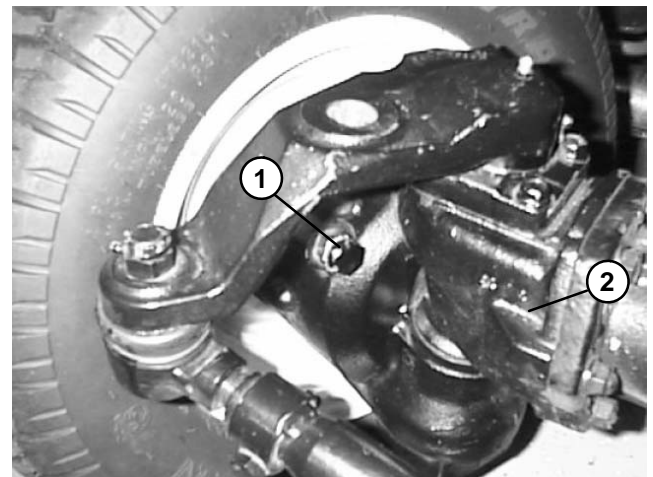

Figure 11
11. Check steering stop bolt adjustment. When the steering cylinder is fully extended in either direction, a gap of 1/16" (1.6 mm) should exist between bevel gear case casting and stop bolt on left axle case. Figure 11 shows stop bolt location.